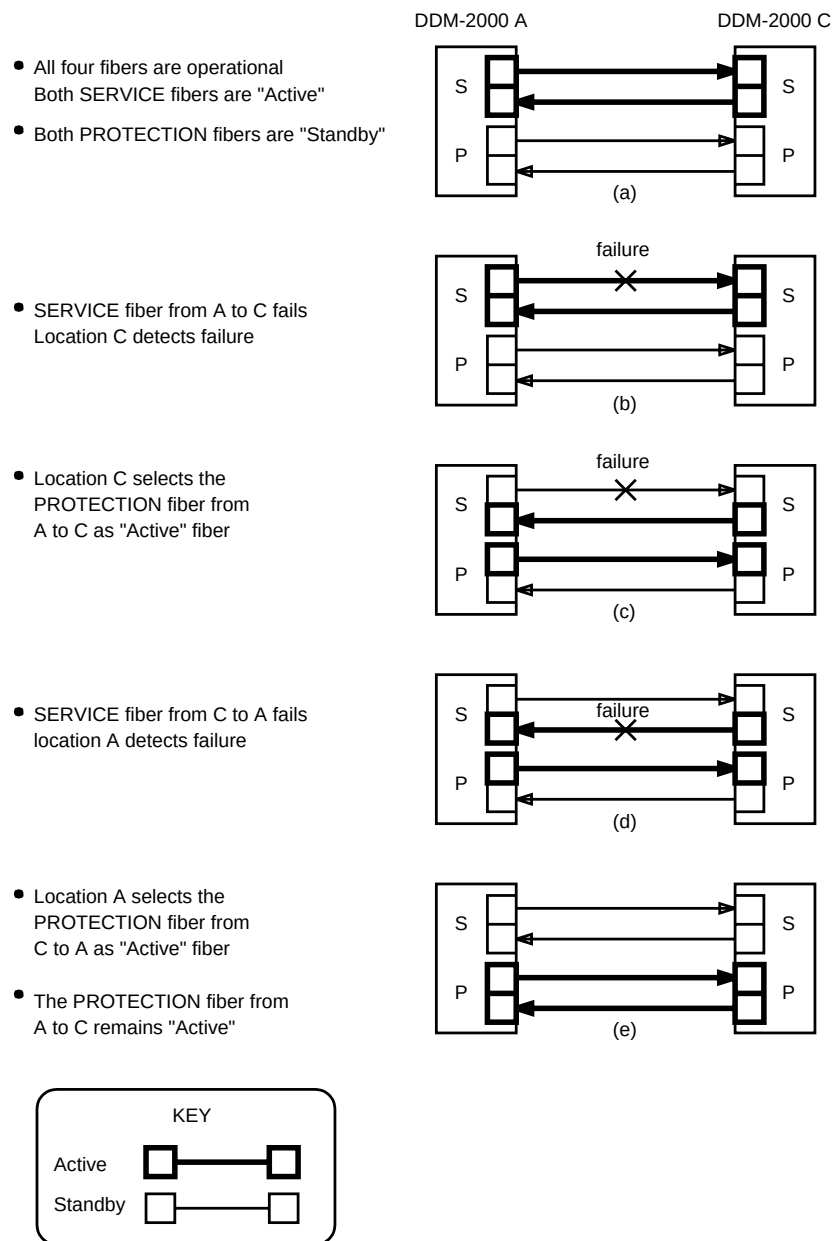

Figure 9-13. Unidirectional Line Protection Switching
Figure 9-13 illustrates examples of unidirectional and nonrevertive line protection switches. Note the squares at locations A and C. Each square represents the transmit or receive section of an OLIU. Figure 9-13(a) and Figure 9-13(b) are associated with the Service (S) OLIU and Figure 9-13(d) and Figure 9-13(e) with the Protection (P) OLIU. Four optical fibers are associated with the service and protection OLIUs that interconnect the OLIUs at locations A and C. The two fibers connecting the service OLIUs are the service fibers and the two fibers connecting the protection OLIUs are the protection fibers. Fibers and OLIUs shown in **bold** are active and carrying service.
In Figure 9-13(a), transmitted optical signals in each direction are permanently bridged to the service and protection fibers. The same signal is transmitted on both fibers. Each service and protection fiber and its associated OLIU are monitored as a set. The fiber/OLIU set selected by the receiving location is the active set and the ACTIVE LED, which in this figure is on the service OLIU circuit packs, is lit. The fiber/OLIU set not selected is the standby set, and the ACTIVE LED on its corresponding OLIU is not lit.
Contrary to other transmission circuit packs, ACTIVE LEDs on both OLIUs may be lit at the same time on the same shelf. For example, in Figure 9-13(b) the receive fiber going to location C has been cut. Location C selects the protection fiber/OLIU set as active, resulting in the lighting of ACTIVE LEDs on both the OLIUs at location C. Location A did not switch to its protection set but continues to remain on the service set. This example illustrates the SONET standard of unidirectional APS. Since each location sends APS information to the other end, both ACTIVE LEDs on the OLIUs at location A are also lit.
After the cut service fiber is repaired, location C **does not** switch back (revert) and select the service set as its active fiber/OLIU set. This example, Figure 9-13(c), illustrates the SONET standard of nonrevertive APS.
Figure 9-13(d) and Figure 9-13(e) illustrate a second fiber failure and the resulting changes to the active OLIUs thus showing that both protection sets could be active and carrying service.